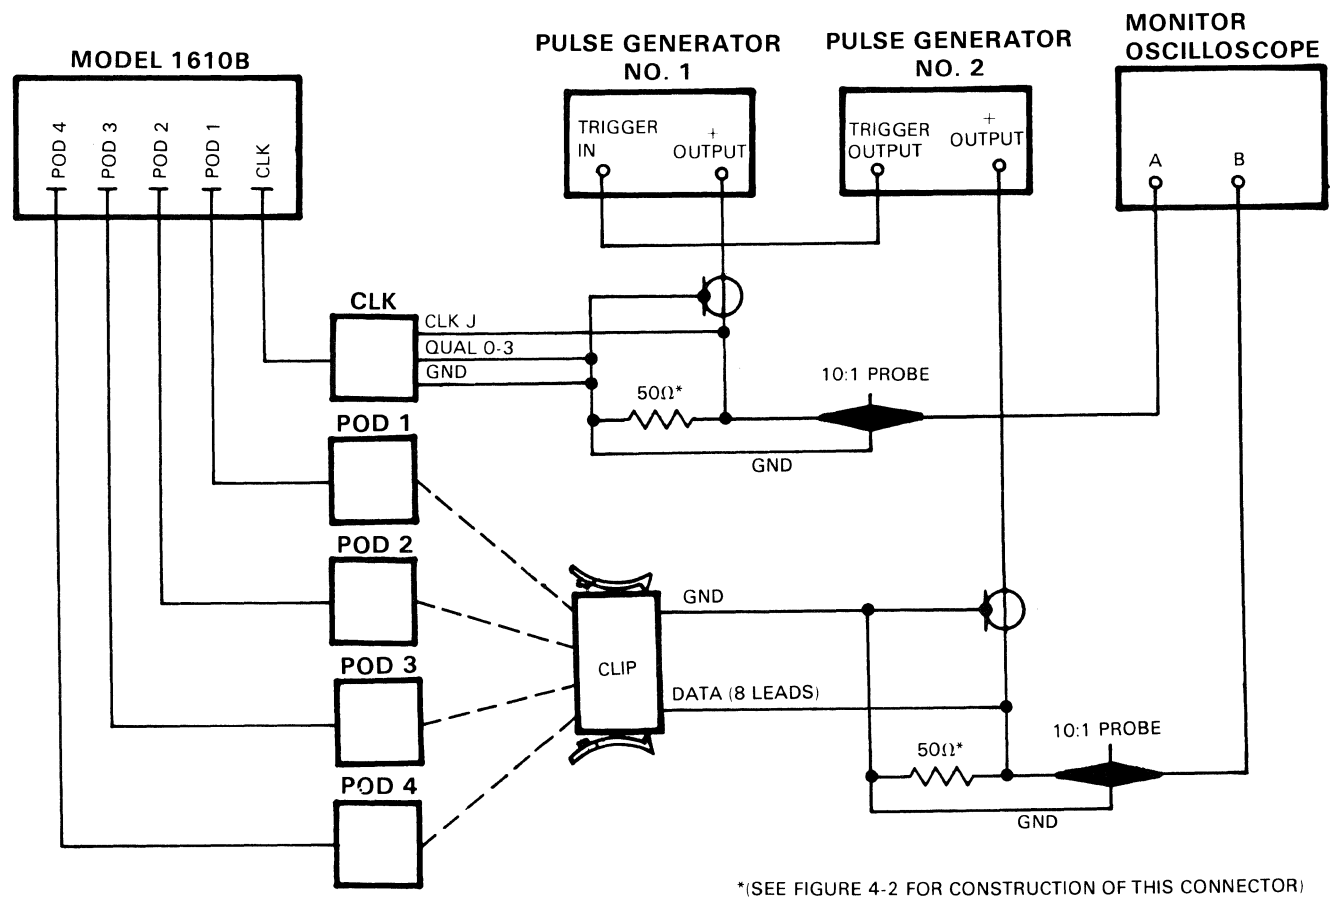

Figure 4-9. Data Setup and Hold Time Test Setup
- d. Connect clock probe and pod 1 data probe as shown in figure 4-9.